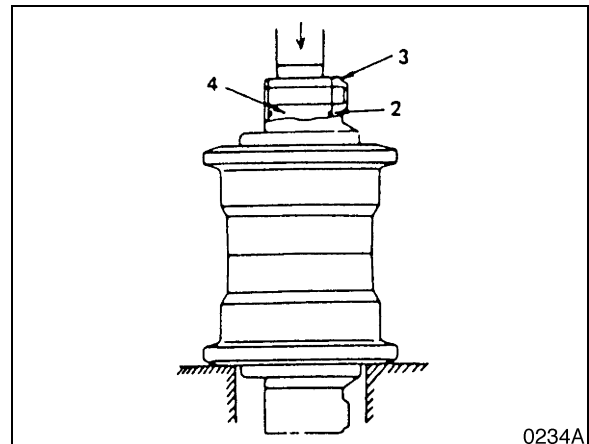

Figure 31
3. Separate the collar (3, Figure 31) from the axle, using a press.